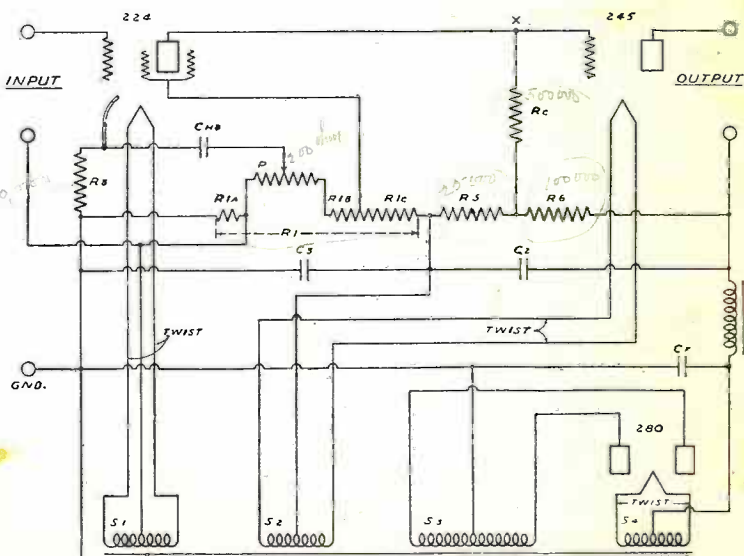

Fig. 91 - Diagram of direct-coupled amplifier.
(9) Direct-Coupled Amplifiers. The elimination of the coupling or blocking condenser in a resistance-coupled amplifier gives us what is called a direct-coupled amplifier, but certain precautions must be taken before this can be effected. Some means must be employed to maintain the grid-bias voltages at the proper values. This has been well accomplished in a practical manner in the Loftin-White amplifier, the circuit of which is given in Fig. 91.
This circuit was designed specifically for use as a phone amplifier, the phonograph pick-up being connected directly to the input terminals. However, with the addition of a suitable coupling device many interesting combinations of this system with various R.F. tuners can be obtained. A simple receiver can be constructed by coupling the input terminals to an antenna and ground through a conventional tuning coil and condenser. In the diagram of Fig. 91, P is a 200 ohm potentiometer; R1 a tapped divider resistance; R5, 25000 ohm metallic resistor; R3, 50,000 ohm metallic resistor; R6, 100,000 ohm metallic resistor; RC, 500,000 ohm resistor; the tubes used are a type '80 rectifier, a '45 amplifier, and a '24 screen grid tube for the first stage. The resistances and connections are such that the correct bias voltages are obtained only when using the correct tubes.